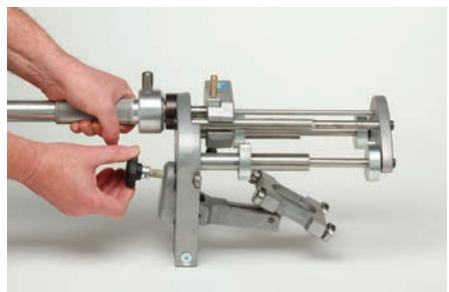

fig. 3
- Cancel lock by applying pressure on the twist grip knob **(5)** and drive clamping carriage **(4)** down (fig. 3).
- Setting the clamping carriage (4) to the correct place for the given wall thickness (fig. 3). The load bearing part of the clamping carriage (4) should be aligned parallel with the pipe wall.